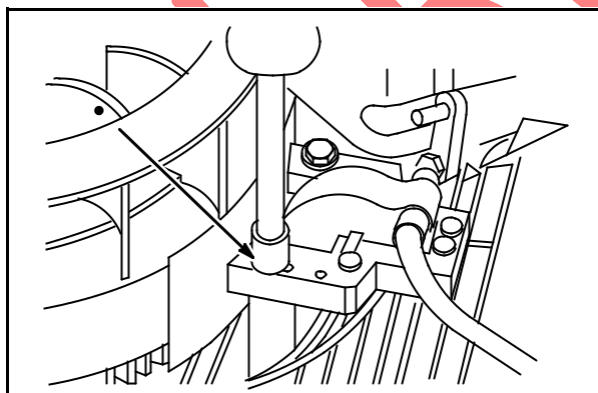

Fig. 6
Place thickness gauge (1) between magnet and armature laminations, Fig. 6.